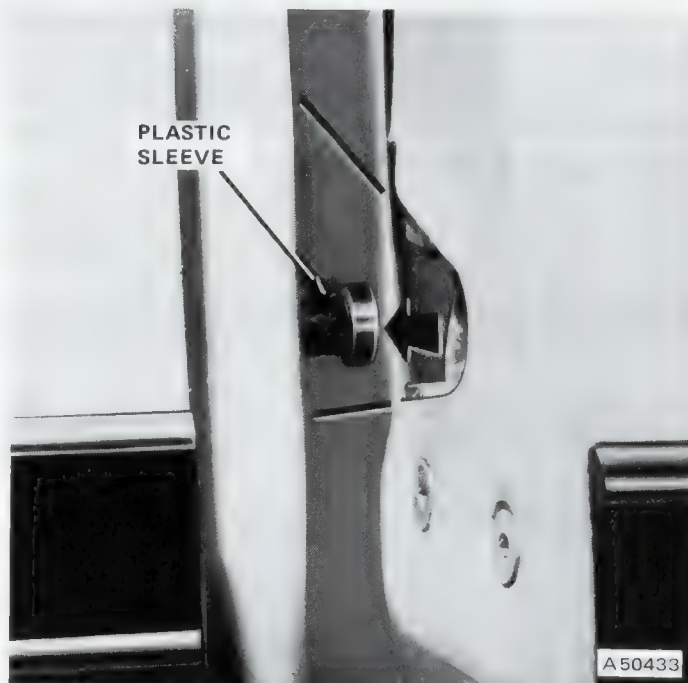

Fig. 3J-16 Lock Striker Alignment
- (1) Determine proper striker alignment (fig. 3J-16).